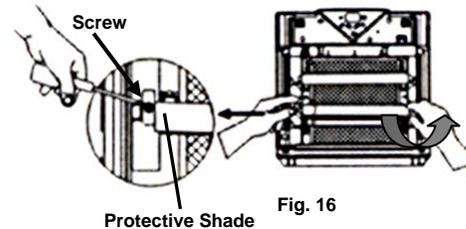

Fig. 16
5. There is a protective shade covering the UV bulbs. To remove the protective shade use a Phillips #2 screw driver to remove the screw on either end of the shade, then lift the shade off. (Fig. 16)